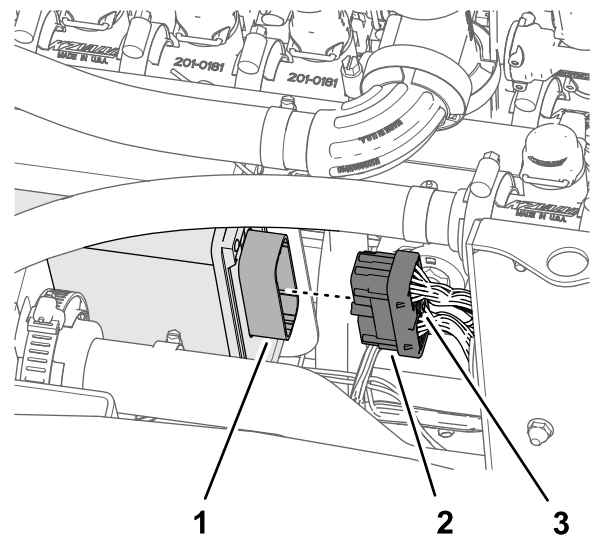

Figure 132
2. Insert the 40-socket connector of the 102 cm (40 inch) branch of the kit wire harness into the 40-pin connector of the ASC 10 spray controller (Figure 132).
3. Thread the thumb screw of the 40-socket connector into the ASC 10 connector by hand (Figure 132).